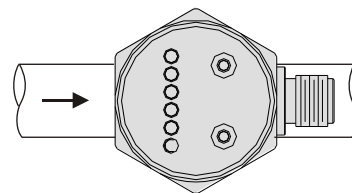

Fig. 4
4. SP must be tightly screwed to avoid liquid from leaking out. It can be installed in any angle. For best sensitivity and response speed, please refer to the installation in (Fig. 4)